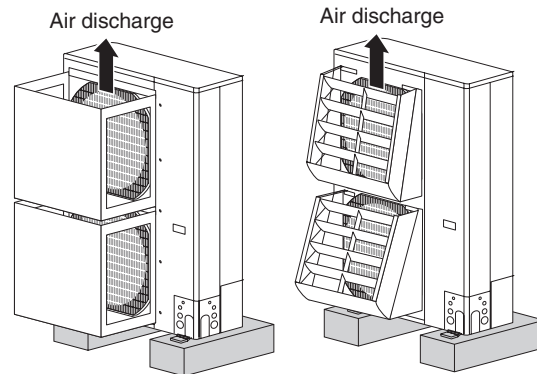

Fig. 2-17
- The air discharge outlet is facing a sidewalk and discharged hot air may annoy passers-by. Refer to Fig. 2-17.